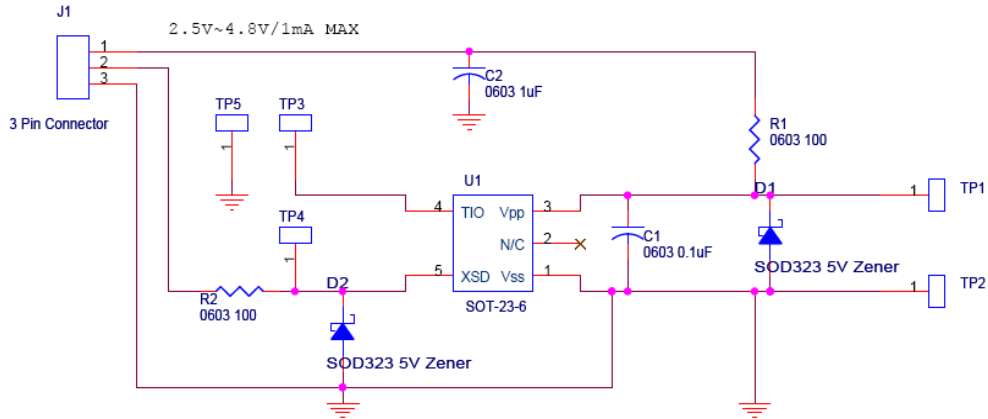

**FIGURE 18. SCREEN SHOT OF THE USB HID PROPERTIES WINDOW**
3. Double-click on the USB Human Interface Device, then Figure 18 will appear.
In Figure 18, one can find "Location: Evaluation Kit ISL6296...". This is the confirmation that the interface board is properly recognized by the operating system.